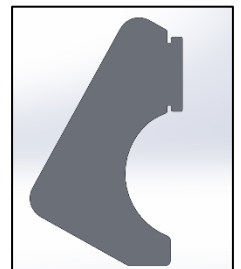

FIG. 6 ACOUSTIC FIN
4. ACOUSTIC FIN. (shown in FIG. 6)